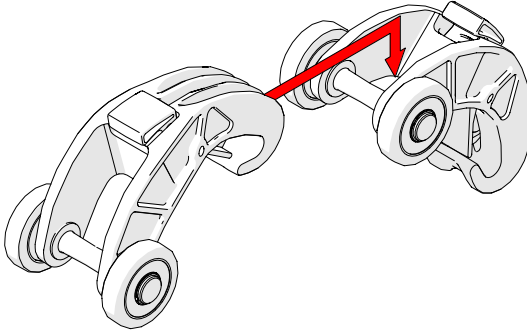

Fig. 64 - Lift the hook over the axle of the link
1. Lift the hook of the chain link over the axle of the chain link that is to be connected (*Fig. 64*).